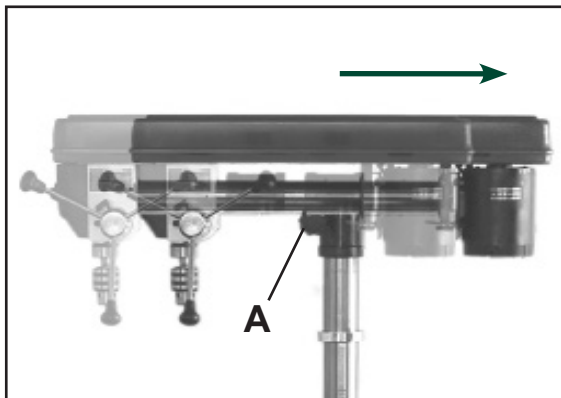

Figure 19
2. Turn the handle (A-Fig. 19, 20 ) to the desired position.